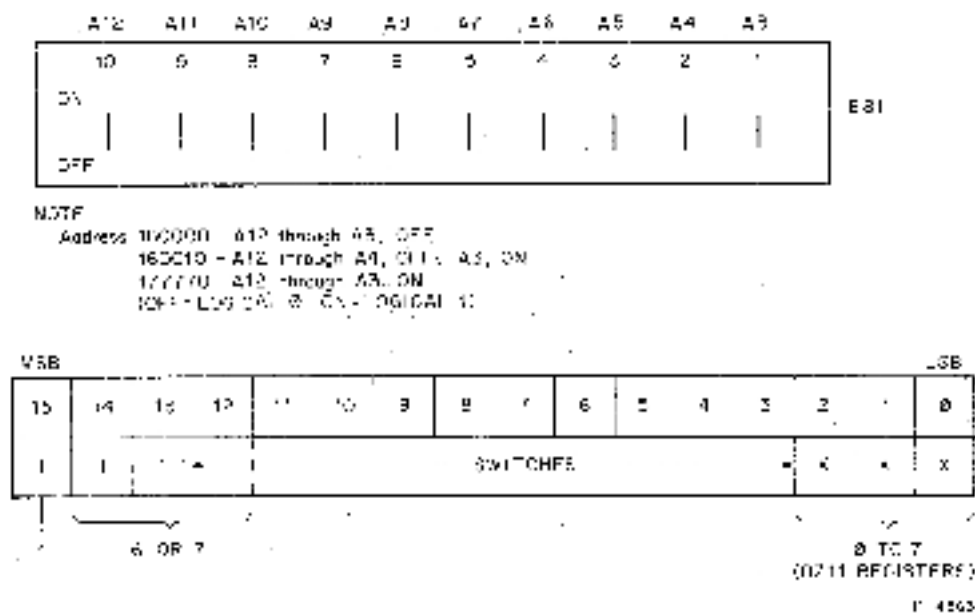

Figure 2-1 M7819 Address Selection
2. Refer to Paragraph 3.1.1 for descriptions of the address assignments. Set the switches at E81 so that the module will respond to its assigned address. When a switch is closed (on), a binary 1 is decoded. When a switch is open (off), a binary 0 is decoded. Note that the switch labeled 1 corresponds to bit 3, 2 corresponds to bit 4, etc. (See Figure 2-1.)